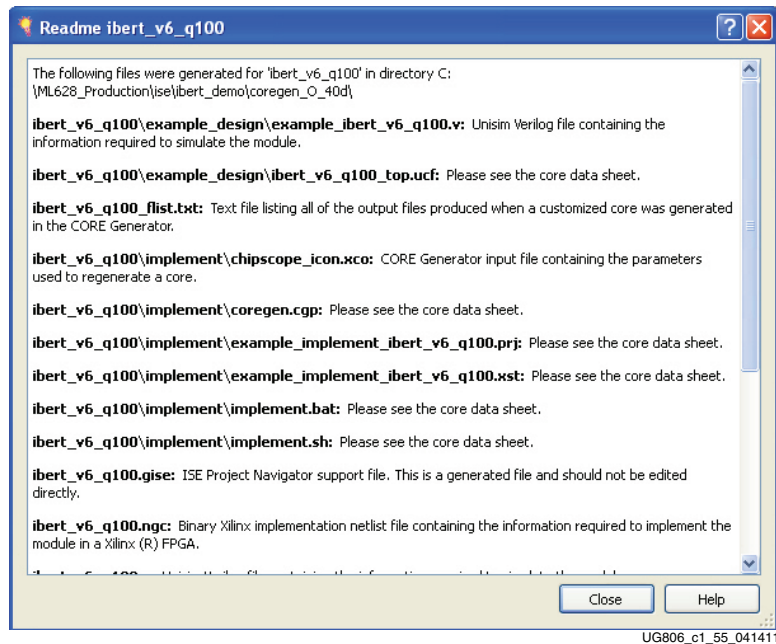

Figure 1-55: CORE Generator - Readme
- The generation process will take a few minutes. When complete, a *Readme* window will appear (Figure 1-55). Review the information presented and locate the following files: